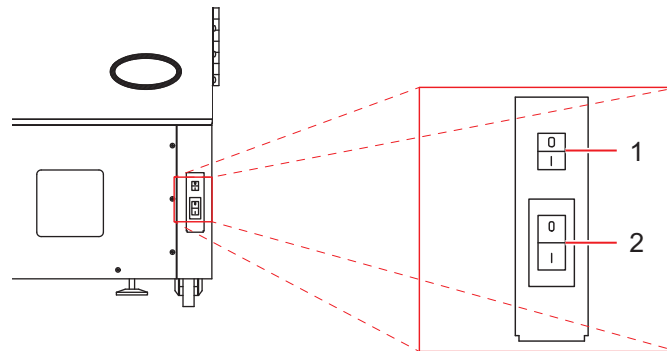
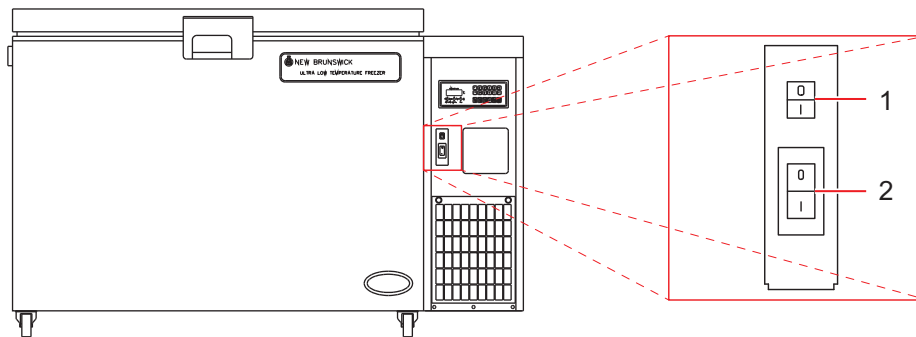

Fig. 4: Upright freezers switch location
Fig. 5: Chest freezers switch location
The equipment is delivered with the battery deactivated. The Power Fail alarm is activated by the battery rocker switch within the lockable panel, which is located at the bottom right-hand corner. The switch is labelled **I (ON)** and **O (OFF)** (see Fig. 4 on p. 22) and (Fig. 5 on p. 22).